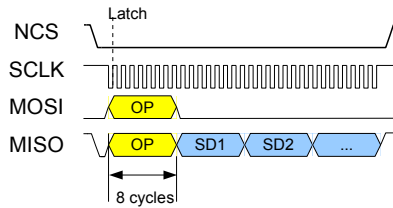

Figure 24: SDAD transmission: read SD
iC-MU latches the absolute position on the first rising edge at SCLK, when NCS is at zero (e.g. Figure 24 LATCH). Because iC-MU can output the sensor data (SD) immediately, the master can transmit the **SDAD transmission** command directly. The sensor data shift register (the size of which is 8 to 40 bits in multiples of 8 using iC-MU) is switched and clocked out between MOSI and MISO.
**Note:** iC-MU latches the absolute position on the first rising edge at SCLK, when NCS is at zero (e.g. Figure 24 - LATCH).